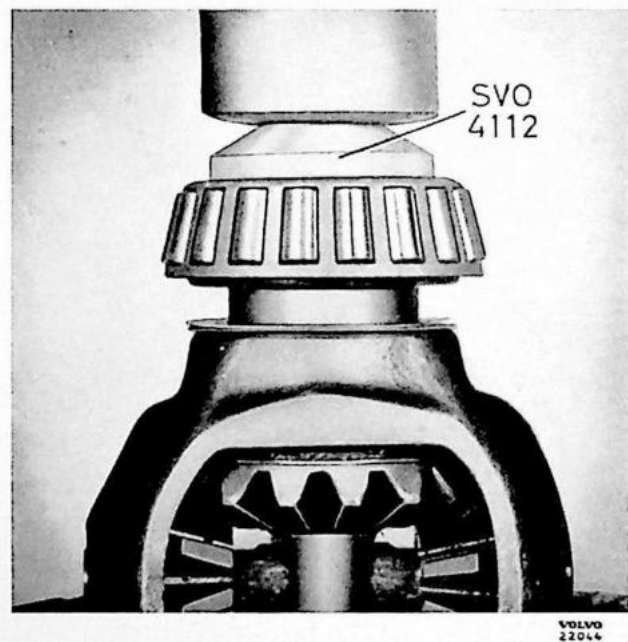

Fig. 15. Fitting differential carrier bearing.
4. Fit the ring gear (17), ensuring that the contact surfaces are clean and smooth. Tighten the bolts (15) to the torque mentioned in the specifications and lock with tab washers (16).
5. Press on the differential carrier bearings (33), see fig. 15. Use drift SVO 4112 and standard handle SVO 1801 for the bearings.